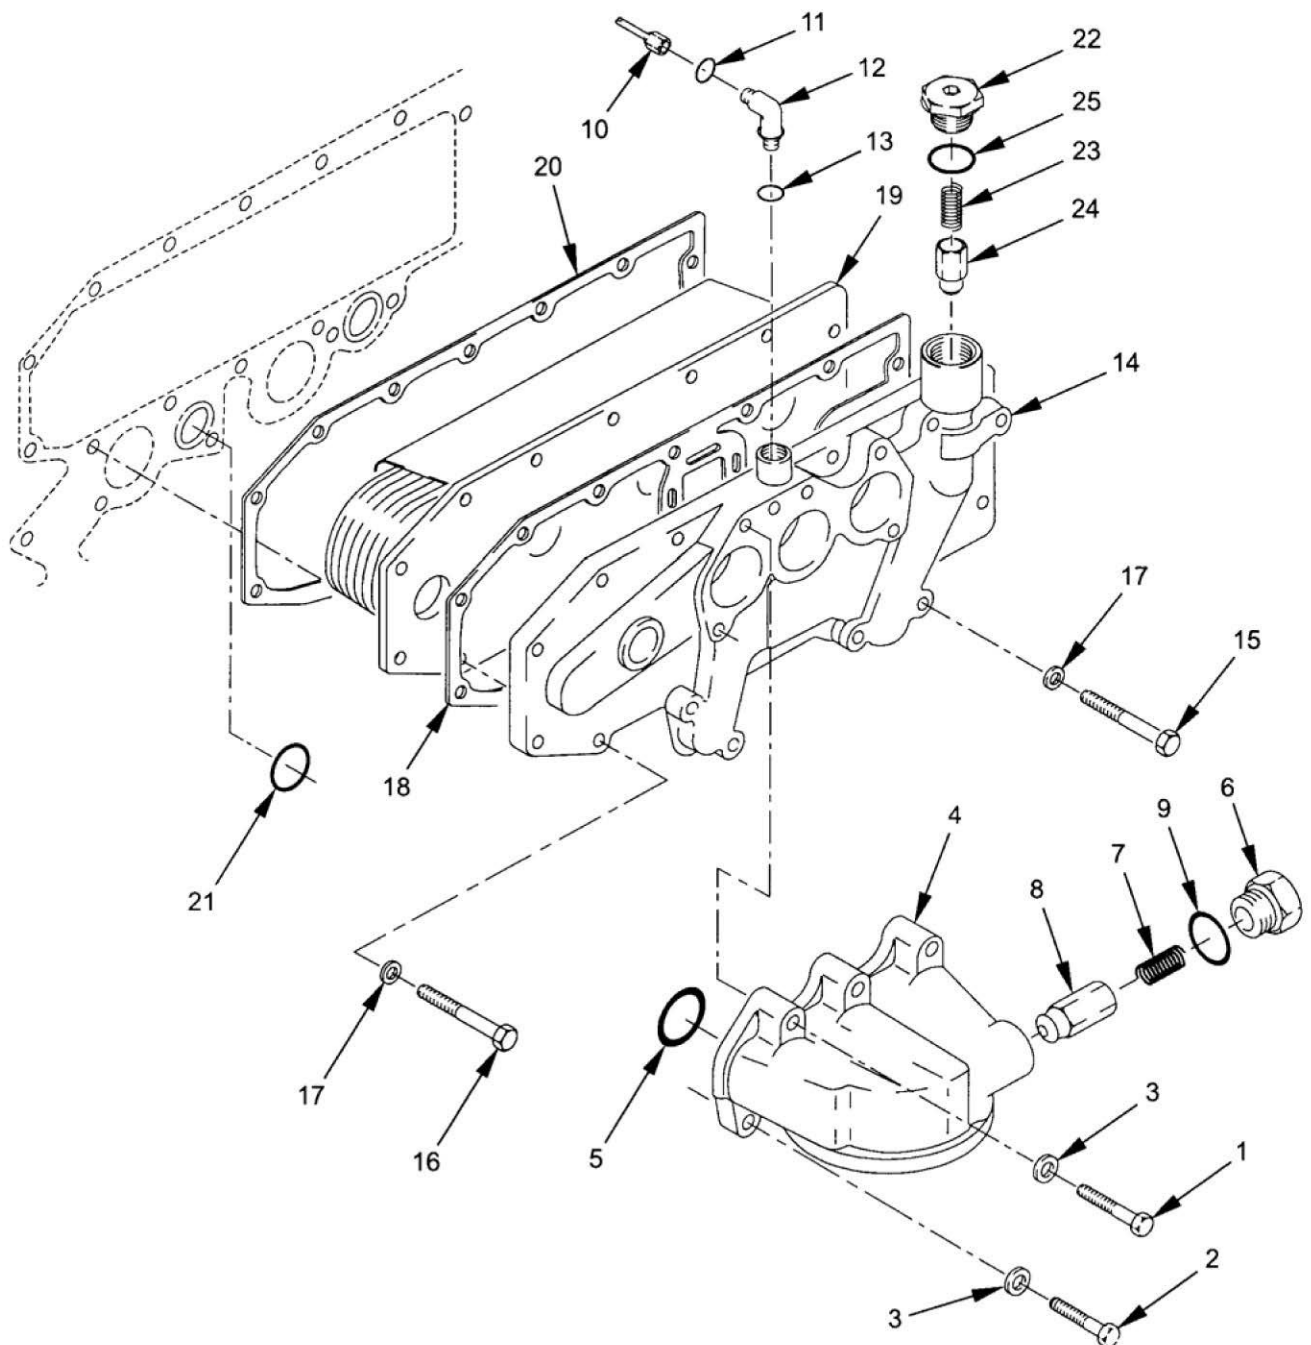

Figure 1. Engine Oil Filter Base and Oil Cooler.
4. Remove seven bolts (Figure 1, Item 15), two screws (Figure 1, Item 16), nine washers (Figure 1, Item 17), oil cooler (Figure 1, Item 14), and gasket (Figure 1, Item 18).
5. Remove oil cooler core (Figure 1, Item 19), gasket (Figure 1, Item 20), and two O-rings (Figure 1, Item 21).
6. Remove plug (Figure 1, Item 22), spring (Figure 1, Item 23), check valve (Figure 1, Item 24), and preformed packing (Figure 1, Item 25).
1. Install preformed packing (Figure 1, Item 25), check valve (Figure 1, Item 24), spring (Figure 1, Item 23), and plug (Figure 1, Item 22).
2. Install two O-rings (Figure 1, Item 21), gasket (Figure 1, Item 20), and oil cooler core (Figure 1, Item 19).
3. Install gasket (Figure 1, Item 18), oil cooler (Figure 1, Item 14), nine washers (Figure 1, Item 17), two screws (Figure 1, Item 16), and seven bolts (Figure 1, Item 15). Torque screws (Figure 1, Item 16) and bolts (Figure 1, Item 15) to 15-25 lb•ft (20-34 N•m).
4. Install O-ring (Figure 1, Item 13), elbow (Figure 1, Item 12), and O-ring (Figure 1, Item 11) and connect tube (Figure 1, Item 10).
5. Install preformed packing (Figure 1, Item 9), check valve (Figure 1, Item 8), spring (Figure 1, Item 7), and plug (Figure 1, Item 6).
6. Install three O-rings (Figure 1, Item 5), oil filter base (Figure 1, Item 4), five washers (Figure 1, Item 3), two bolts (Figure 1, Item 2), and three screws (Figure 1, Item 1). Torque bolts (Figure 1, Item 2) and screws (Figure 1, Item 1) to 15-25 lb•ft (20-34 N•m).